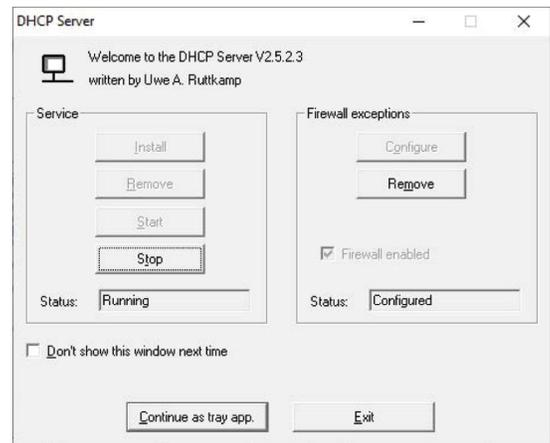

Figure 10. DHCP Server Configuration
5. In the **DHCP Server** window, the status must change to **Configured** and **Running**, as shown in Figure 10.